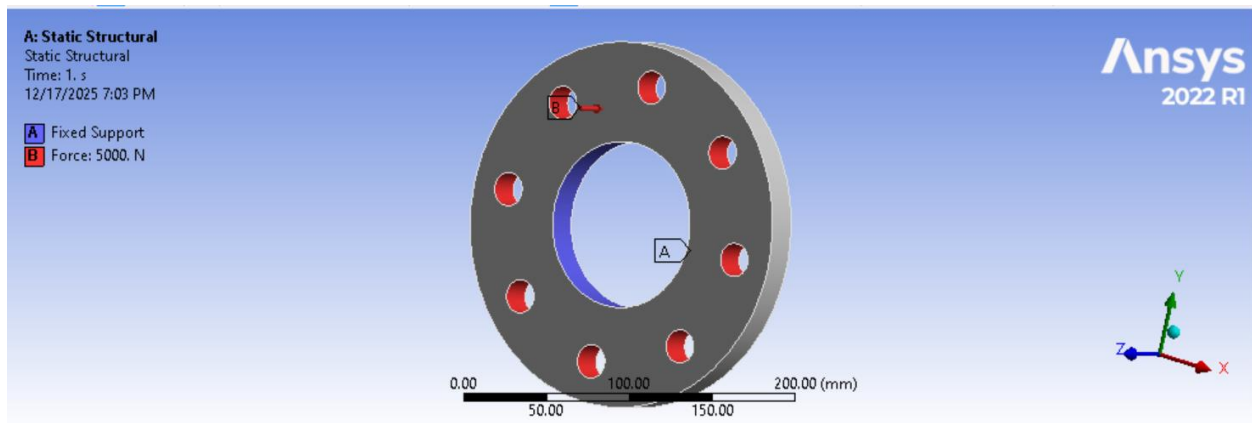

Figure 2a: Flange Model with Boundary Conditions
- **Geometry:** A cylindrical flange model with bolt holes as shown in **Figure 2a**